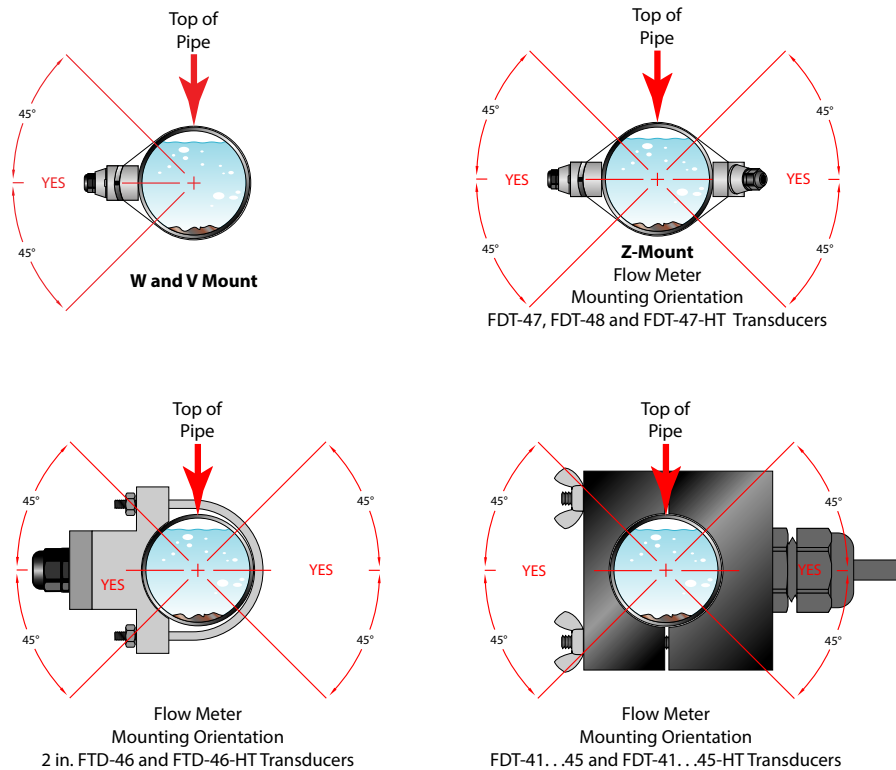

Figure 10: Transducer orientation for horizontal pipes
2. Orient and space the FDT-47, FDT-48 and FDT-47-HT transducers on the pipe to provide optimum reliability and performance. On horizontal pipes, when Z-Mount is required, mount the transducers 180 radial degrees from one another and at least 45 degrees from the top-dead-center and bottom-dead-center of the pipe. See Figure 10. Also see “Z-Mount Configuration” on page 22. On vertical pipes, the orientation is not critical.
3. Crease the paper at the fold line. Mark the crease. Place a mark on the pipe where one of the transducers will be located. See *Figure 10* for acceptable radial orientations. Wrap the template back around the pipe, placing the beginning of the paper and one corner in the location of the mark. Move to the other side of the pipe and mark the pipe at the ends of the crease. Measure from the end of the crease (directly across the pipe from the first transducer location) the dimension derived in "Select a Mounting Configuration" on page 17. Mark this location on the pipe.